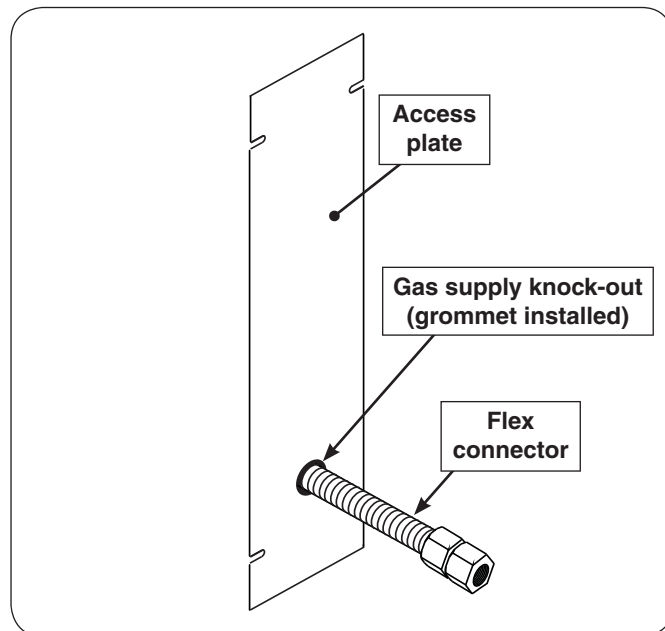

Fig. 11-1 Access plate view & install orientation
2. Remove the plastic grommet fastened to the inside of the post and insert it into the newly created opening. Then route the flex connector through the opening. See Fig. 11-1 and 11-2.